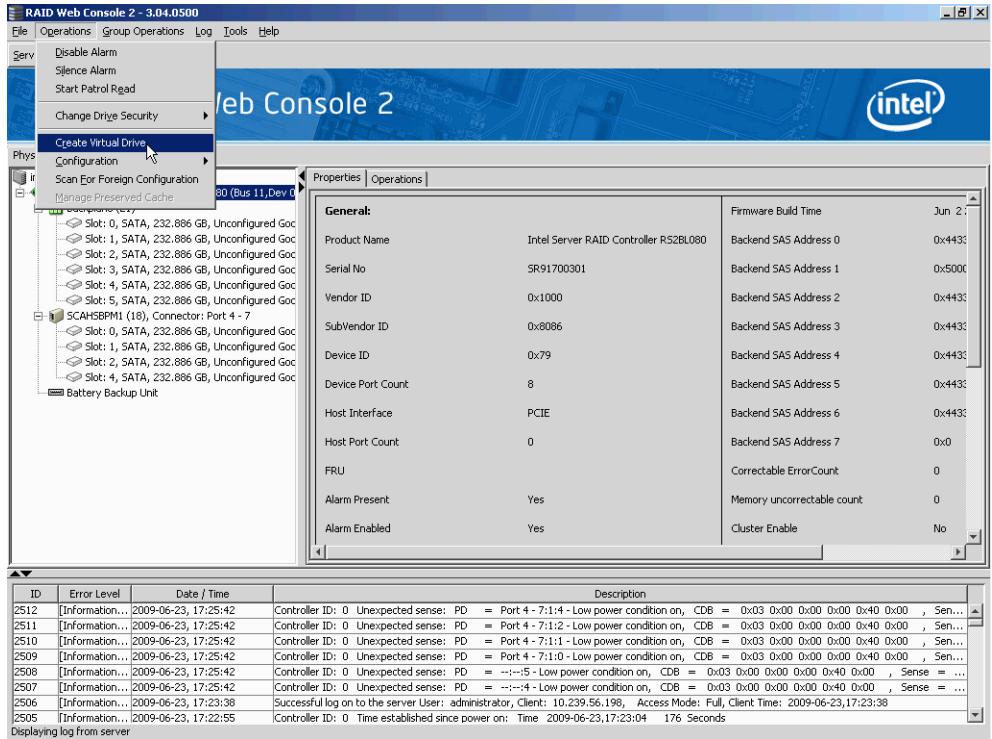

Figure 46. Virtual Drive Creation Menu
- Select the controller node and select Operations->Create Virtual Drive in the menu bar, as shown in Figure 46